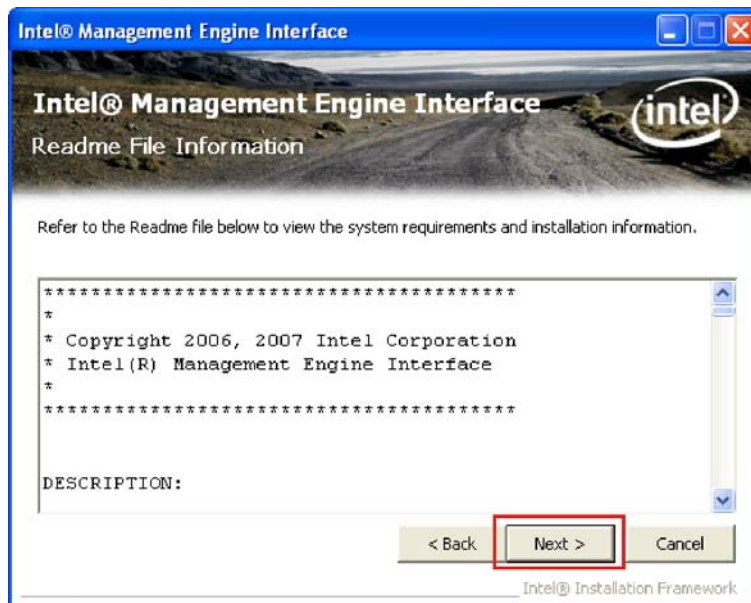

Figure 6-40: IAMT Readme File
Step 7: The IAMT Readme file appears (**Figure 6-40**).